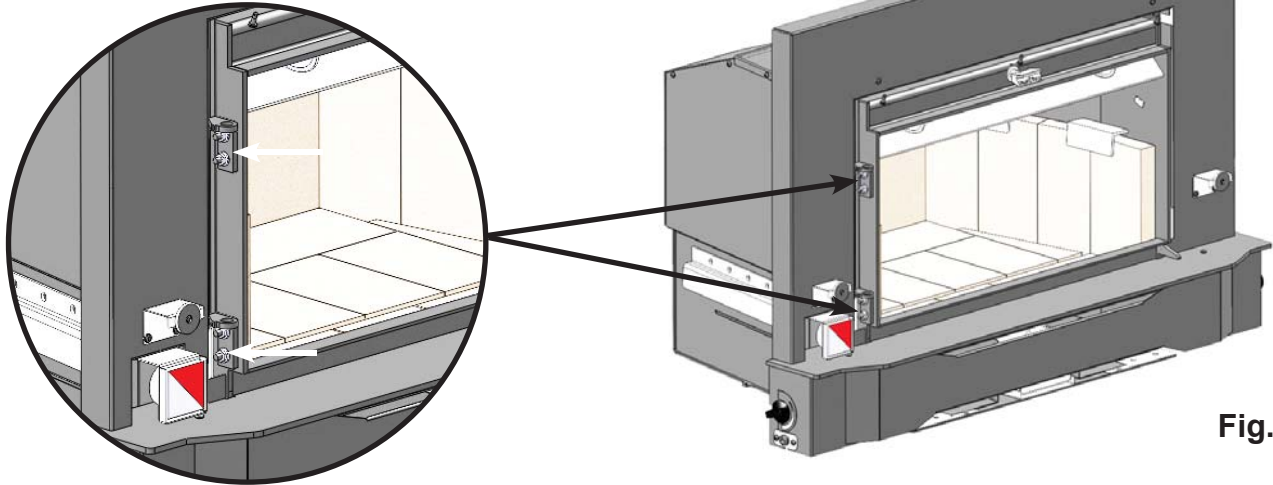

Fig. 24
4. Loosen the four door hinge nuts using a 7/16" wrench. Slide door hinges in to tighten door seal and out to loosen door seal. (Fig. 24)